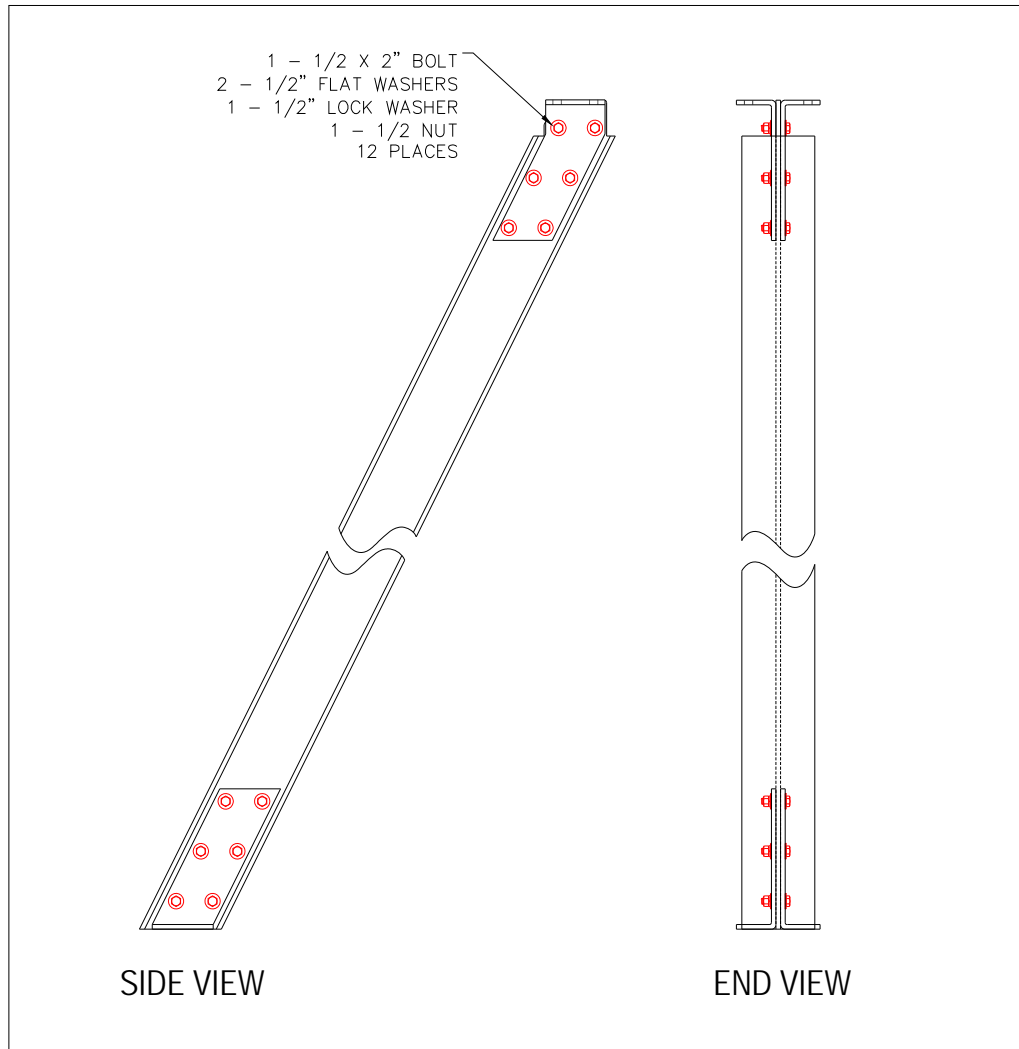

Figure 4-7 Assembly steps 8 and 9
- (8) Loosely fasten the left and right lower clips (Items 18 and 19, Table 2-1) to the bottom of the angle leg (Item 8, Table 2-1) using six 1/2" x 2" bolts. Refer to Figure 4-7.
- (9) Loosely fasten the left and right upper clips (Items 16 and 17, Table 2-1) to the top of the angle leg (Item 8, Table 2-1) using six 1/2" x 2" bolts. Refer to Figure 4-7.